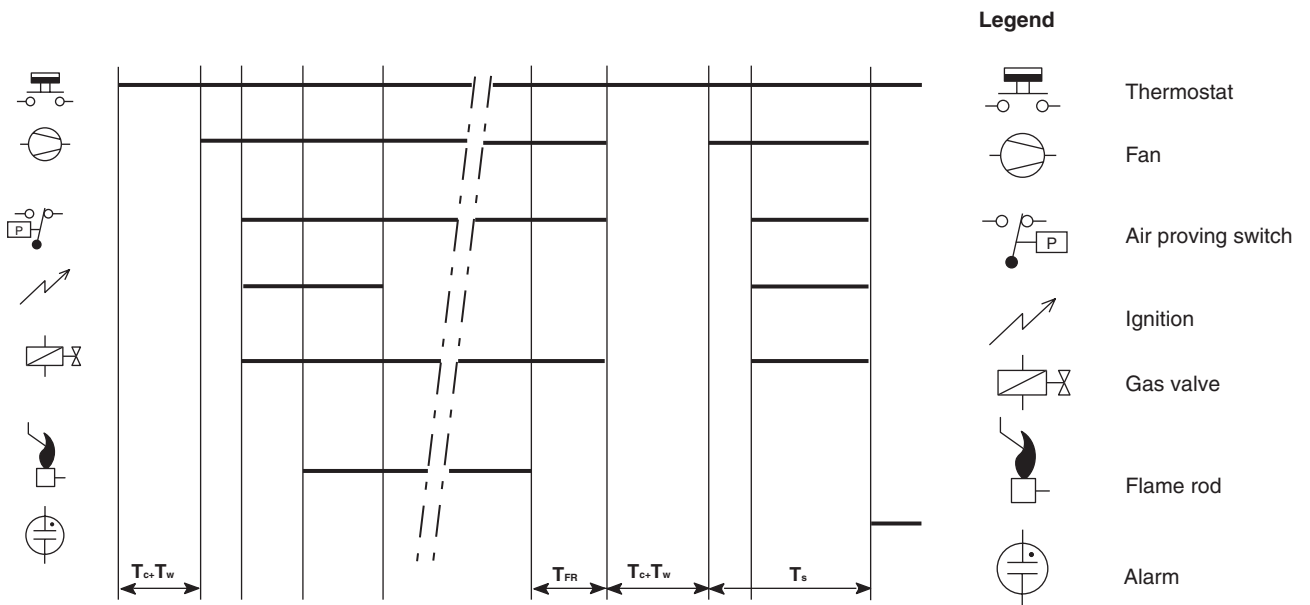

Fig. 21. Timing diagram S4565CD, RD "1000" series
**Suffix CD and RD (see fig. 21.)**